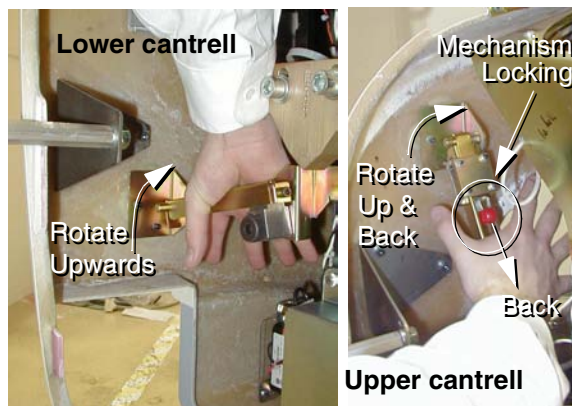

Figure 8 Releasing cover brackets
- 1.) Using steady but firm pressure, lift each of the lower cantrell brackets from their associated retainers. See Figure 8.